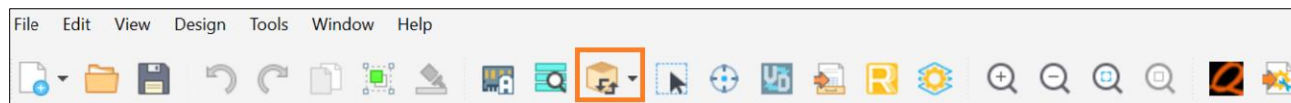

Figure 5.15. Generate the Design in Lattice Propel Builder
7. To generate the design, select **Design > Generate** or click the **Generate** icon (as shown in Figure 5.15).